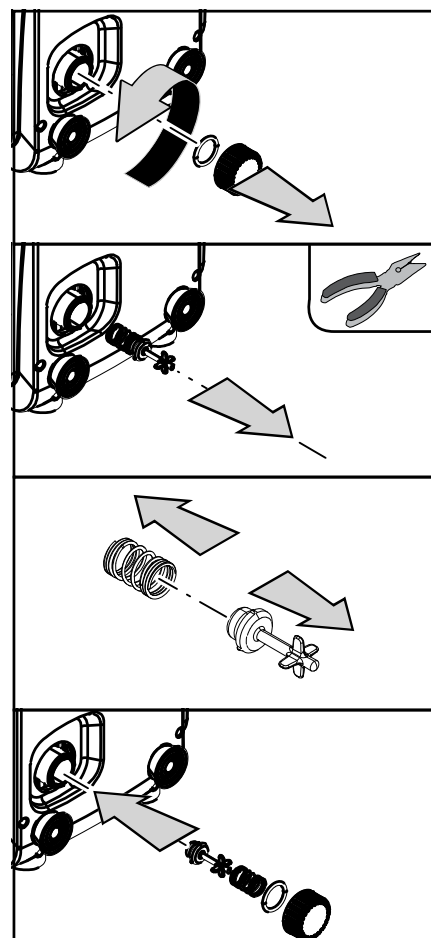

Figure 19
3. remove the drainage cap on Face E, taking care not to drop the O-Ring (*Fig.19*);